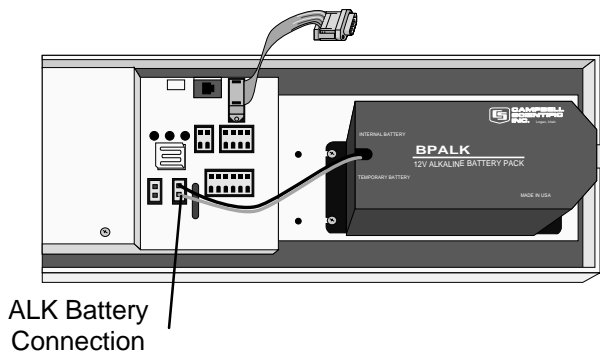

FIGURE 3.1-1. Alkaline Power Mounting and Connections
- a) Alkaline Option: The BPALK houses 8 "D" cell batteries. Install it as shown in Figure 3.1-1. Remove the external circuit board with wire and connector by loosening the 2 phillips head screws. Discard the external circuit board. Mount the BPALK into the enclosure. To install the battery pack, loosen the thumb screw and remove the cover. Insert the battery pack and plug the battery lead into the connector labeled "ALK".